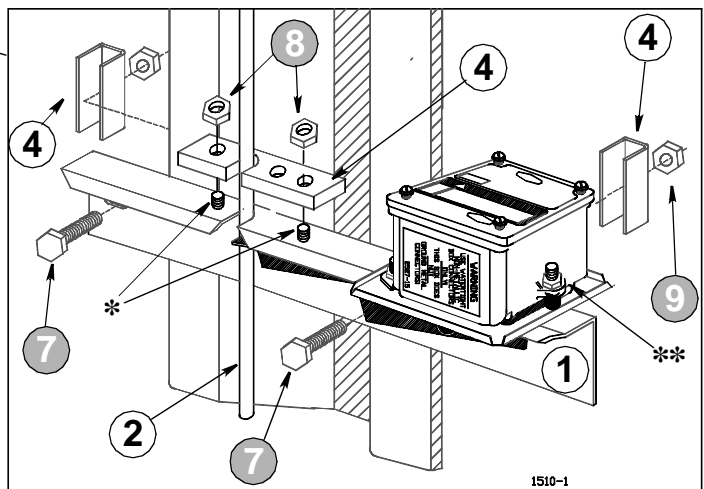

Figure 3. Shutoff Switch Installation to Leg
3. The Shut-Off Switch/Bracket ① should be substituted for the lower Handle Bracket supplied with the Lid. The Switch and Bracket should be located 27" (685.8) below the top Bracket ③. See **Figure 3**. Use the hardware connections described in the Manual (**Figures 2-4**). While the same Line Guide ⑤ is used, Press Studs* in the top of the Shut-Off Bracket replace Carriage Bolts used to install the Line Guide to the top Bracket.